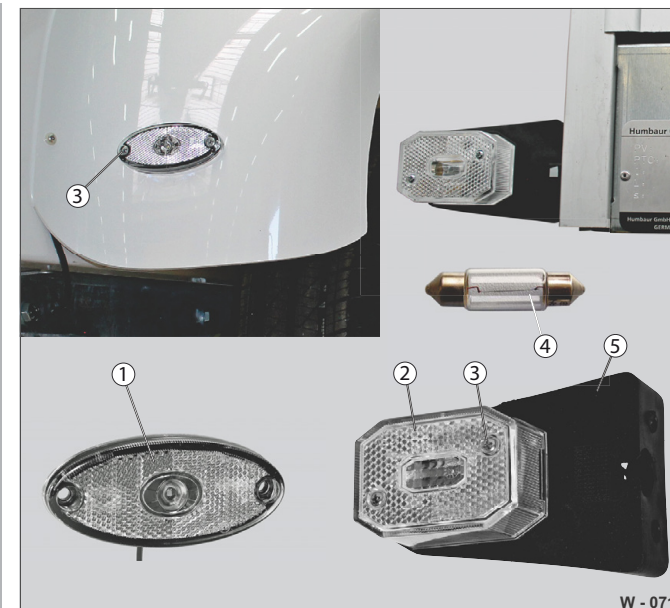

Fig. 73 Side light / front bulb
- Undo the screw connection (Fig. 73 /3) and remove the cover glass (Fig. 73 /2).
- Replace the tubular bulb (Fig. 73 /4).
- Attach the cover glass on the mounting plate (Fig. 73 /5) with the screw connection - do not tighten too much, pay attention to alignment.
- Have a faulty LED light (Fig. 73 /1) replaced in a specialist workshop.